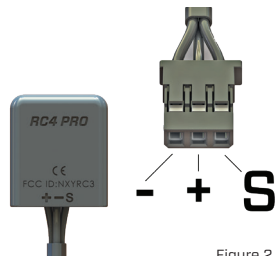

Figure 2
- ▶ Make sure the polarity of the servo connector is respected by the receiver. When wires are shortened, check figure 2 for polarity